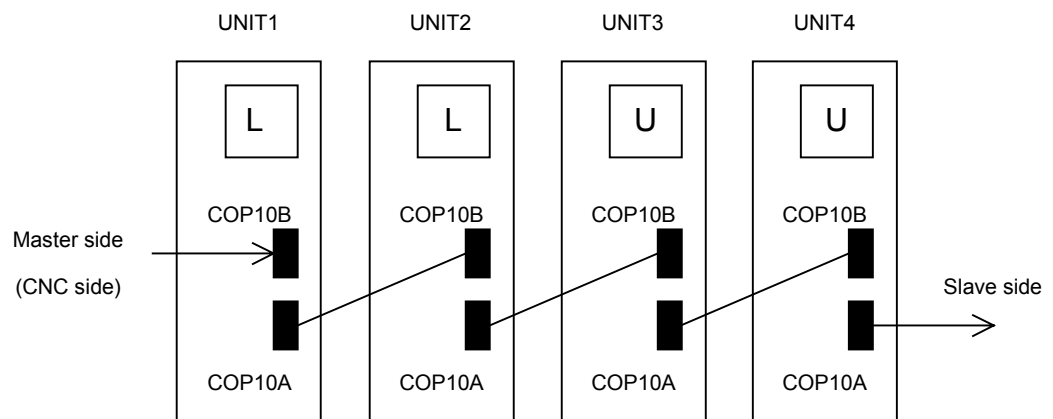

Fig. 3.2.12
- (2) Cause and troubleshooting
- (a) Replace the SVM optical cable (COP10B) that is nearest to the CNC on which "U" is displayed (in Fig. 3.2.12, the cable between UNIT2 and UNIT3).
- (b) Replace the SVM that is nearest to the CNC on which "U" is displayed (in Fig. 3.2.12, UNIT3).
- (c) Replace the COP10B-side SVM that is nearest to the CNC on which "U" is displayed (in Fig. 3.2.12, UNIT2).